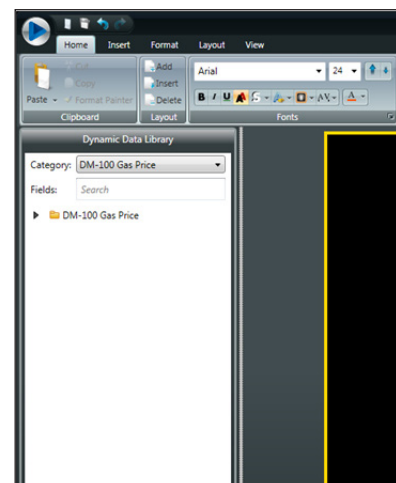

Figure 9: Open Dynamic Data Library
11. Click the **Dynamic Data Library** tab on the left side of the Content Studio Editor window, as shown in **Figure 9**.
12. Click the **Category** down-pointing arrow, as shown in **Figure 9**.